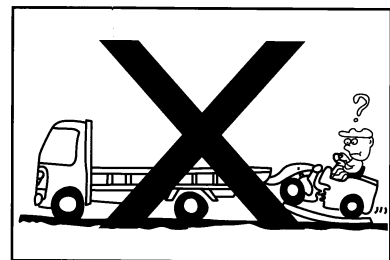

Figure 3-2
- Use those slope plates which have enough strength, length and width, so that it can be sure the slope plates are strong and safe enough to load or unload the machine. The angle between the slope plates and ground should not be larger than 15°. And the gap between slope plates should be in accordance with the wheel base of the machine to be loaded or unloaded. (Figure 3-2)